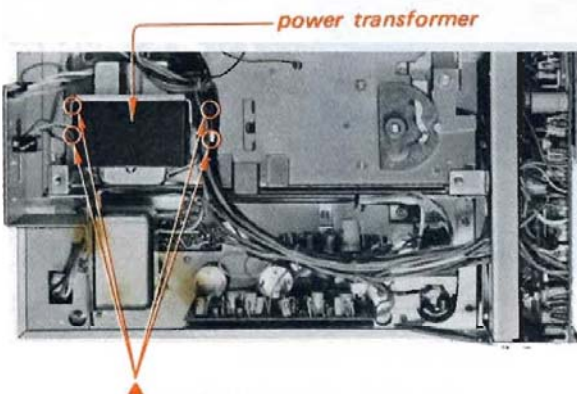

Fig. 8-6 Power transformer removal
- (1) Unsolder all the leads of the power transformer.
- (2) Remove the power transformer by unscrewing the four screws marked with ▲ in Fig. 8-6.